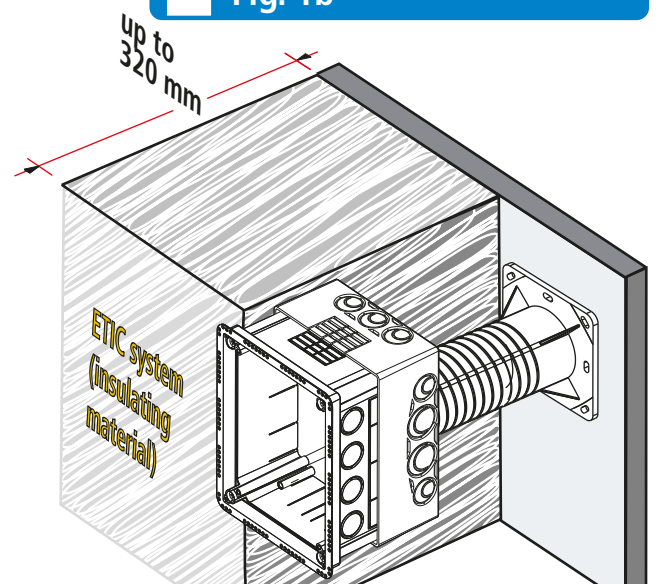

Fig. 1c
- ➔ Mounting the test joint box by means of an additional spacer (see Fig. 1c)